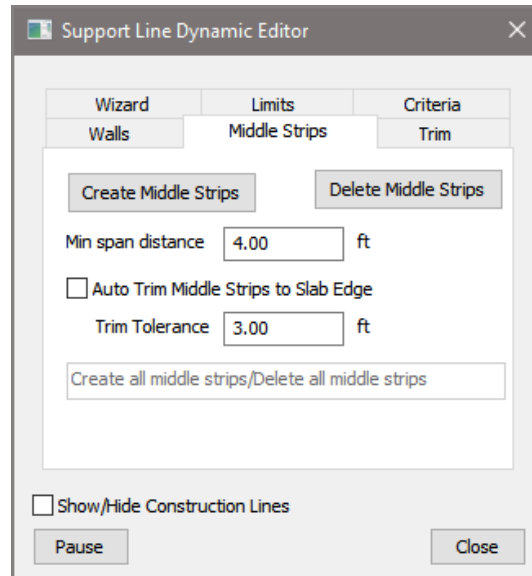

Figure 10-12
- Click on the *Middle Strips* tab of the *Dynamic Editor*. The user should see the window shown in **FIGURE 10-12**.